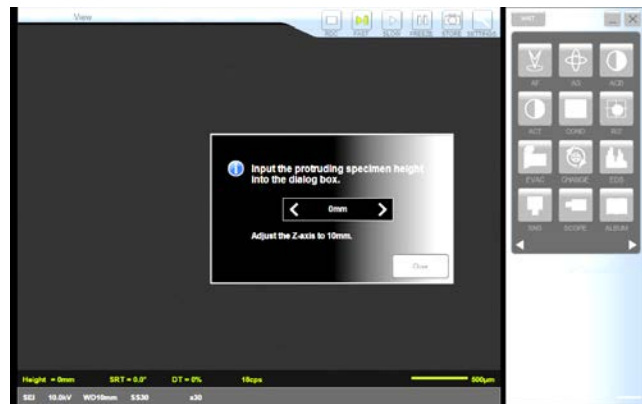

Figure 4: Dialog pop-up just before chamber is fully vented.
5. About 10 seconds before the chamber is fully vented a dialog (figure 4) will pop up on the computer monitor asking for the height of the specimen above the specimen holder. Enter the height. **DO NOT** proceed if you’re not sure or have forgotten how to measure the height. **You must do this even if you are using the camera.**